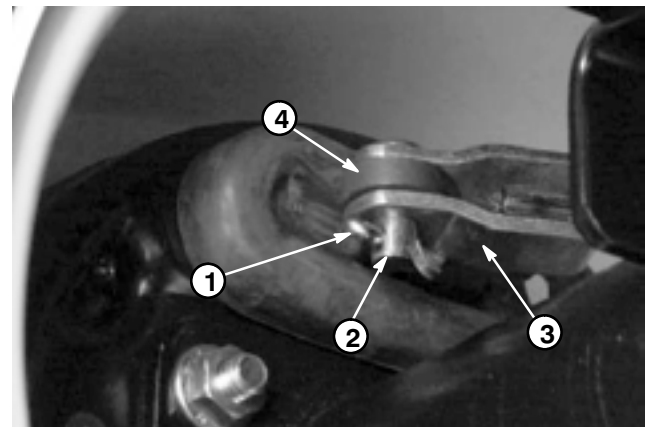

Figure 18
A. Remove cotter pin and clevis pin securing the cable bracket to the actuator lever (Fig. 18).
IMPORTANT: Brake actuator levers must be positioned above the transaxle mount. When positioned correctly, actuator lever will point toward the rear of the axle (Fig. 18).
2. Secure cable bracket to the actuator lever with clevis pin and cotter pin (Fig. 18).